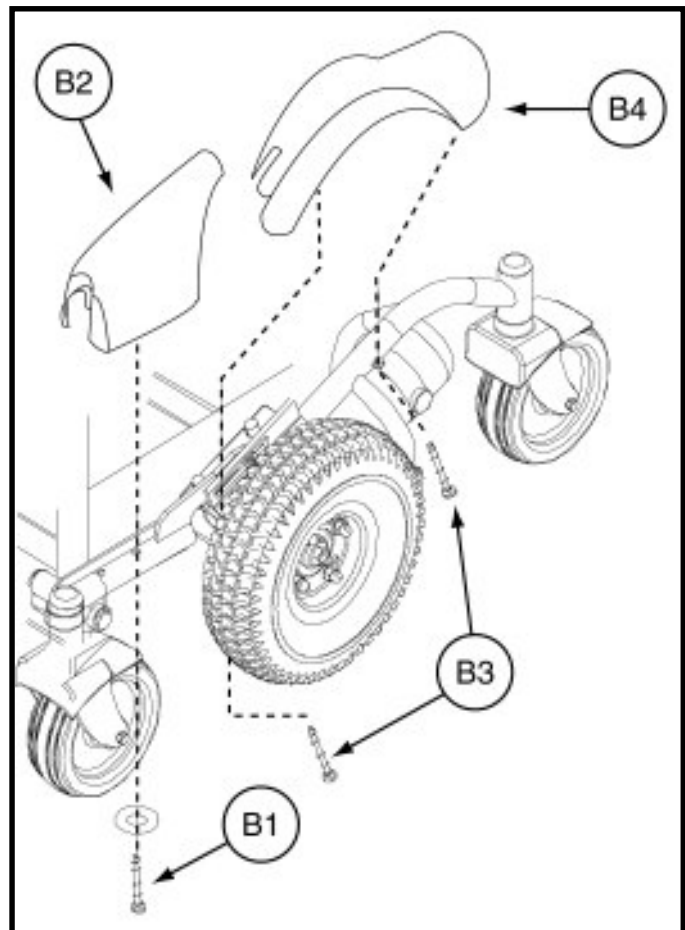

Figure 1. Left Front Caster Arm Cover and Rear Fender
2. Remove the screw (B1) from the front caster arm cover (B2), using a P1 Phillips-head screwdriver. See figure 1.